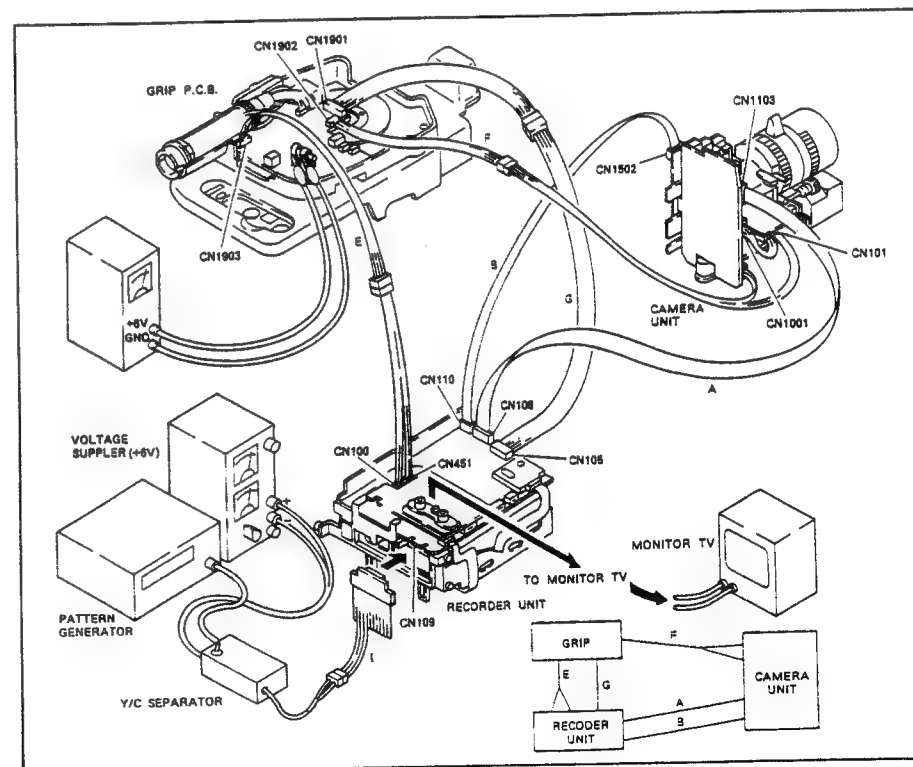

Fig. II-45
- 1) After disassembling down to the camera unit and recorder unit, interconnect the camera unit, recorder unit and GRIP P.C.B. by cables referring to Fig. II-45.
(3) Purpose